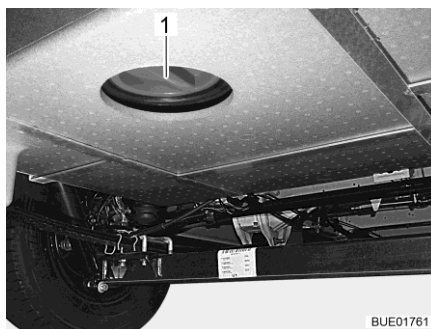

Fig. 207 Cleaning opening (waste water tank)
- Open the cleaning opening (Fig. 207,1) on the waste water tank and the drain cock.